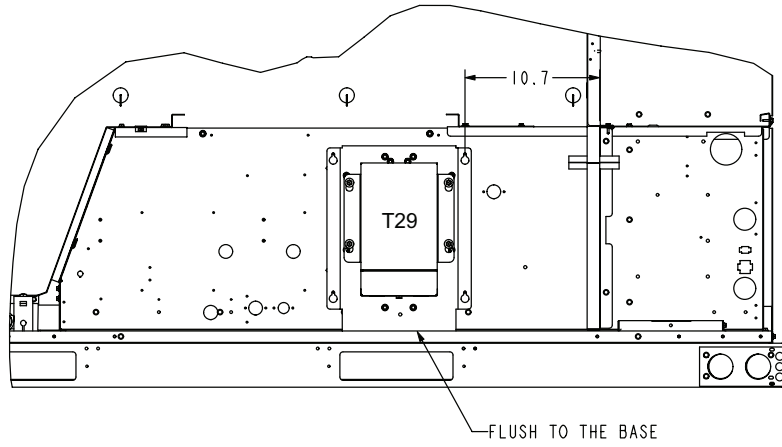

FIGURE 15
- ii. See FIGURE 15 for 092-120 units.